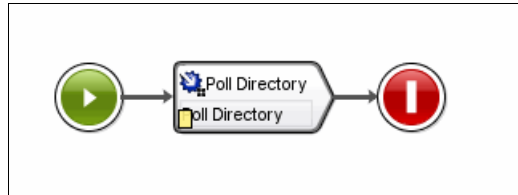

Figure 12-38 Started activity added to the FTP\_DB2\_to\_Domino\_sync\_Orders orchestration
1. Select **FTP** → **Poll Directory** from the Activities tab, and drag the activity into the orchestration, as shown in Figure 12-38.